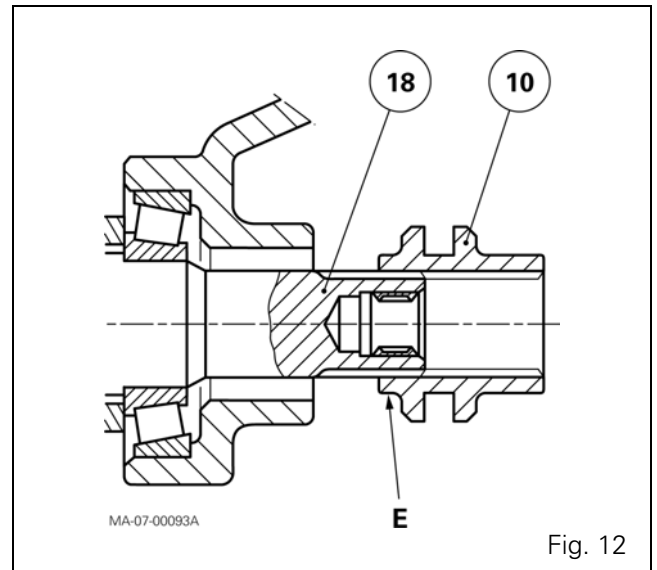
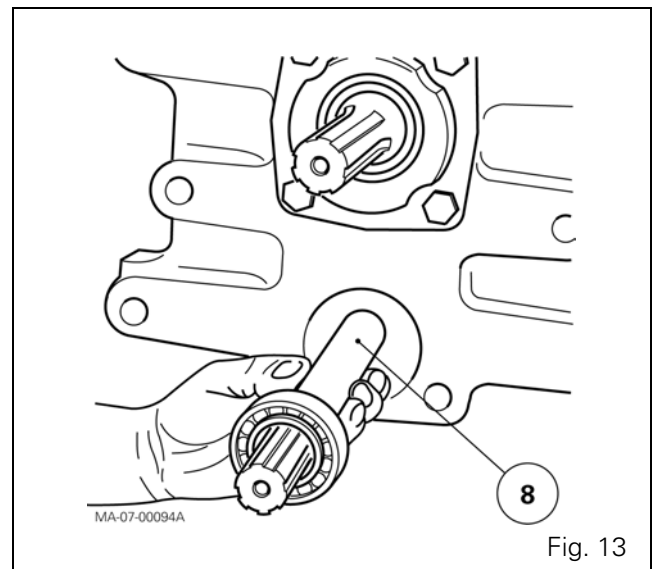
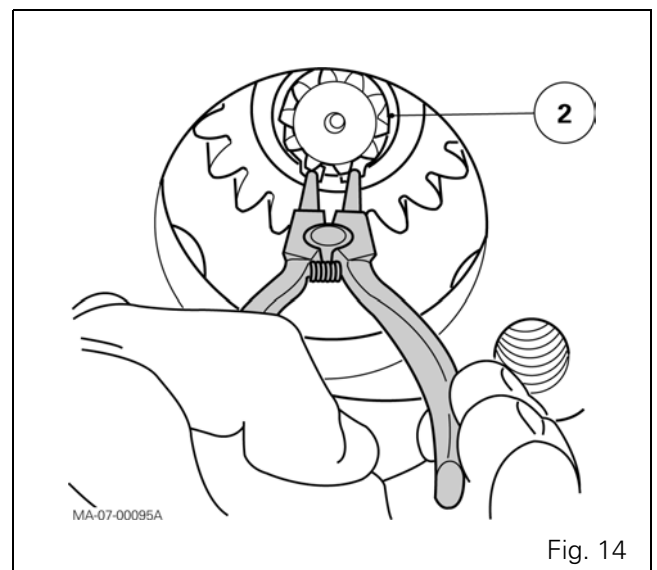

Fig. 12
Fig. 13
Fig. 14
60. Replace or clean the plug (24) and its mating face on the housing.
62. Place the sliding gear (10) on shaft (18).
NOTE: Turn the small shoulder E towards the shaft (18) (Fig. 12).
63. Fit circlips (6) (9) on shaft (8).
64. Using a suitable fixture, insert bearing (5) using a press, on shaft (8), in contact with circlip (6).
65. Check for the presence of circlip (7).
66. Fit the shaft assembly (8) in the housing (Fig. 13).
67. Fit the circlip (4).
68. Place pinion (3).
69. Fit the circlip (2) (Fig. 14).
70. Check the movement of the sliding gear (10) through the opening of the cover (12).
71. Replace or clean the plug (1) and its mating face on the housing.